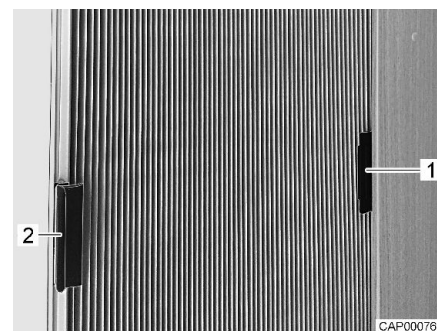

Fig. 25 Roman shade for side pane (closed)
- Close the Roman shade by pulling the respective handle (Fig. 25,1).
- Push the handle (Fig. 25,1) of the Roman shade into the cap (Fig. 25,2).